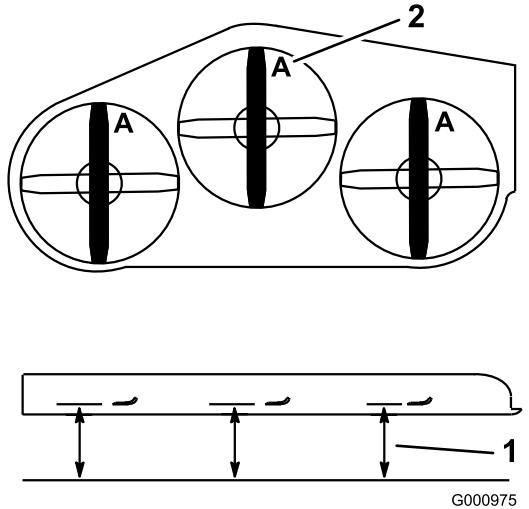
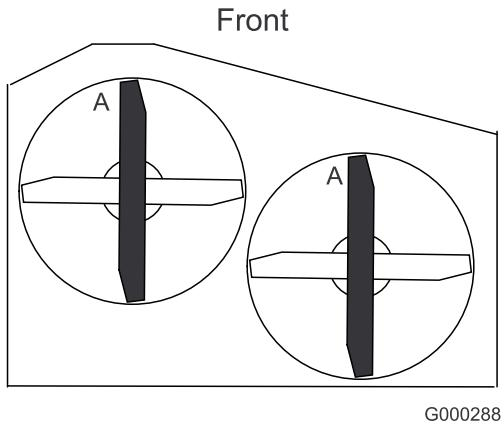

Figure 56
Figure 57
3. Rotate the blades until the ends face forward and backward. Measure from a level surface to the cutting edge, position A, of the blades (Figure 56). Note this dimension. For 36 inch mower decks use Figure 57.